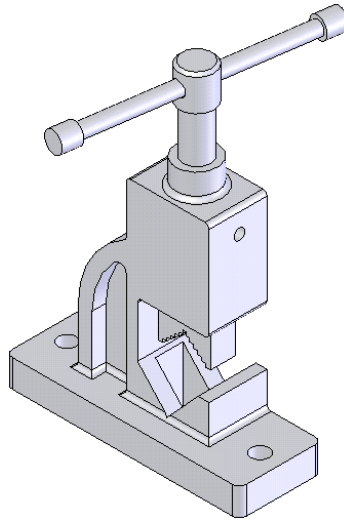

Figure 10-80 Final Pipe Vice assembly
- Place the other components in the assembly and apply the required mates to the assembly, refer to Figure 10-80.
20. Similarly, assemble the other components of Pipe Vice. Figure 10-80 shows the final Pipe Vice assembly.